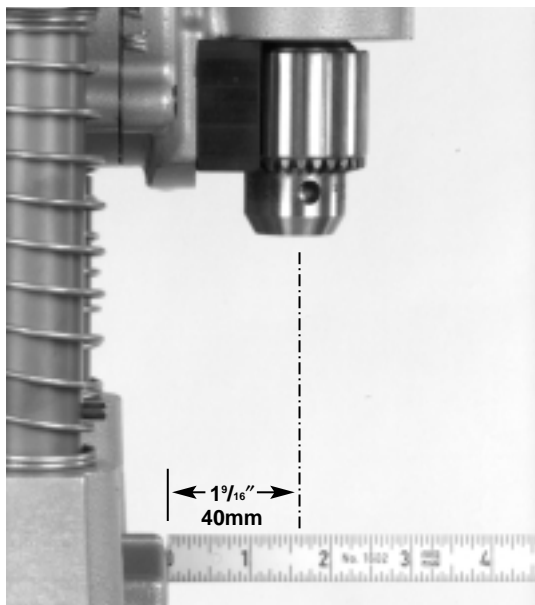

Figure 14 – HC-300 Chuck Centerline
7. Mount the base in the proximity of the place to be cut. To do so, place the base on top of the work-piece. The front edge of the base is $1\frac{9}{16}$ " inches from the chuck centerline. (Figure 14)